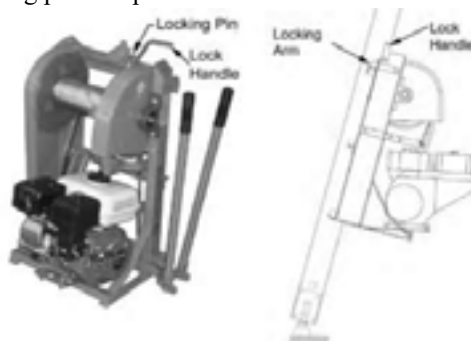

Figure 4
- d. Push the base of the ladder hoist inward, having the back of the power unit flush to the 2nd and 3rd rungs, as shown in Figure 4